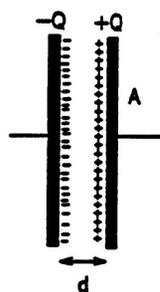
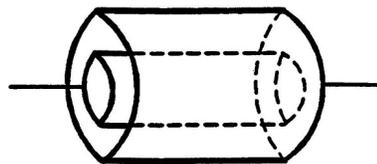

Figure 1a:
Figure 1b:
In this laboratory session you will learn about an important device used extensively in electric circuits: the capacitor. A capacitor is a very simple electrical device which consists of two conductors of any shape placed near each other but not touching. While a primary function of a capacitor is to store electric charge that can be used later, its usefulness goes far beyond this to include a wide variety of applications in electricity and electronics. A typical capacitor, called the parallel-plate capacitor, consists of two conducting plates parallel to each other and separated by a nonconducting medium that we call dielectric (see Fig. 1a). However, capacitors can come in different shapes, configurations and sizes. For example, commercial capacitors are often made using metal foil interlaced with thin sheets of a certain insulating material and rolled to form a small cylindrical package (see Fig. 1b). Some of the properties of capacitors will be explored in this experiment, including the concept of capacitance and the mounting of capacitors in series and in parallel in electric circuits.
The value of C depends on the geometry of the capacitor and on the nature of the dielectric material separating the two conductors. It is expressed in units of Coulomb/Volt or what we call the Farad (F). For the parallel-plate capacitor (Fig. 1a) one can show that the capacitance is given by